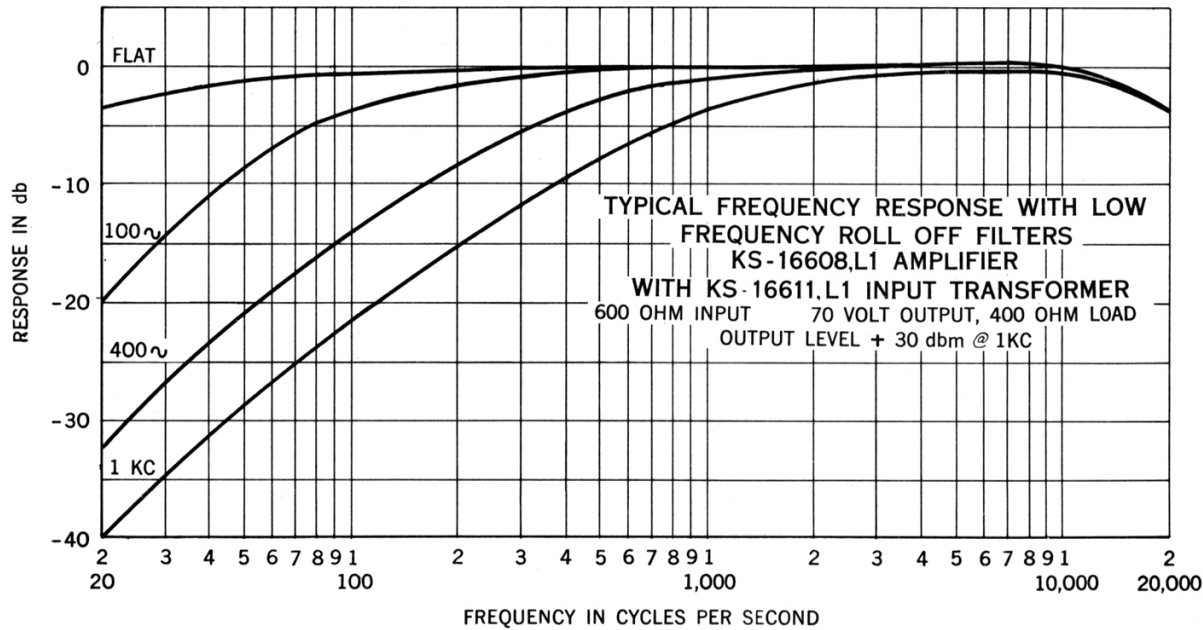

Fig. 10 – Frequency Response with Transformer and Low Frequency Roll-Off
**6.07** Fig. 10 shows the frequency response of the amplifier with various options for low frequency roll-off filters. The amplifier is equipped with a plug-in transformer. In most situations the amplifier will be equipped with a transformer. The need for roll-off filters has been discussed previously.